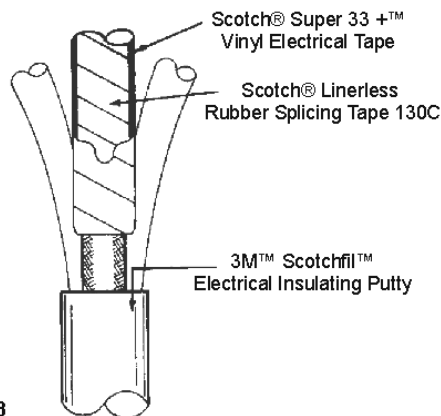

Figure 3
- 2.5 Apply a half-lapped layer of Scotch® Super 33+™ Vinyl Electrical Tape over previously applied Scotch® Tape 130C. (Figure 3)